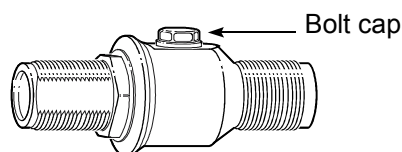

Figure 27 – Bolt cap
2. Remove the bolt cap from the lightning arrester; see Figure 27.